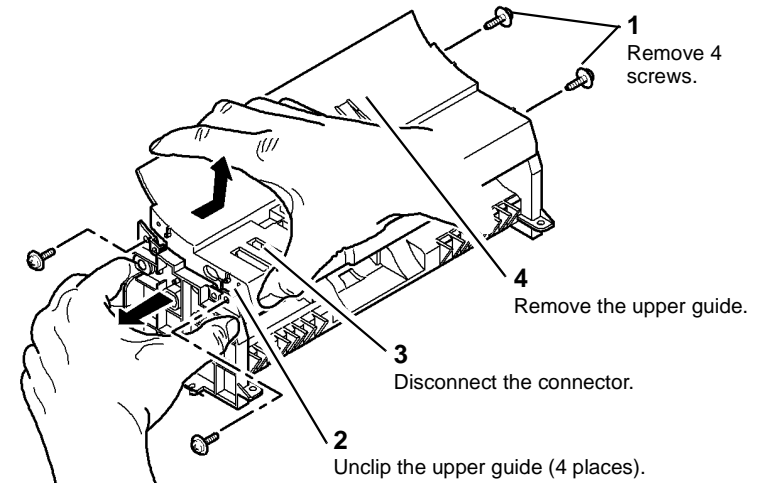

Figure 2 Upper Guide Removal
4. Remove the paper transport upper guide, Figure 2.